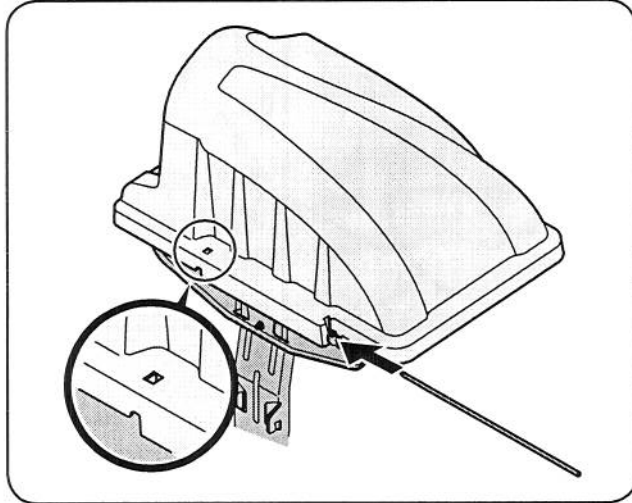
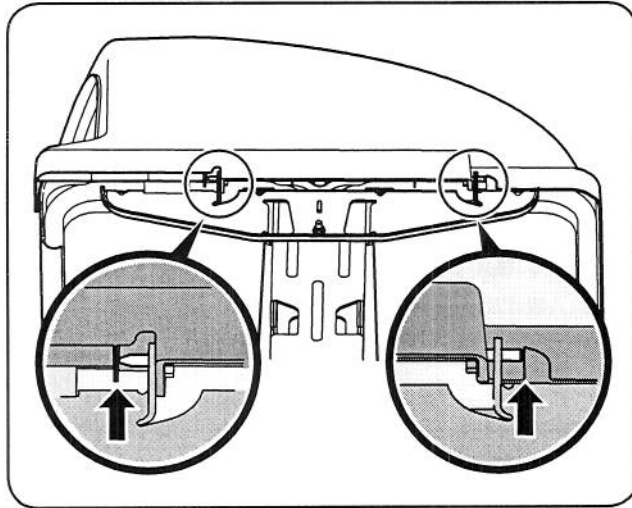

Figure 4-16
Figure 4-17
- Slide the hinge pin into the hole located on the mounting tab, as in Fig. 4-16. Use the cut-out window (See inset in Fig. 4-16) to line up the hinge pin on the other side and push pin all the way in until it reaches the end-stop. At this point the pin clips into place and is secured by a tab in the bagger cover. See Fig. 4-17.